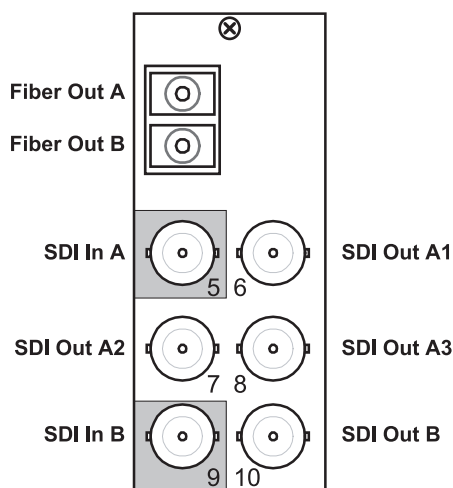

Figure 2.4 Cable Connections for the 8320AR-044 Rear Module
- **8320AR-044** Full Rear Module (R2-6604) — Each card occupies two slots and provides two optical outputs, two SDI inputs, and four SDI outputs. Refer to **Figure 2.4**.